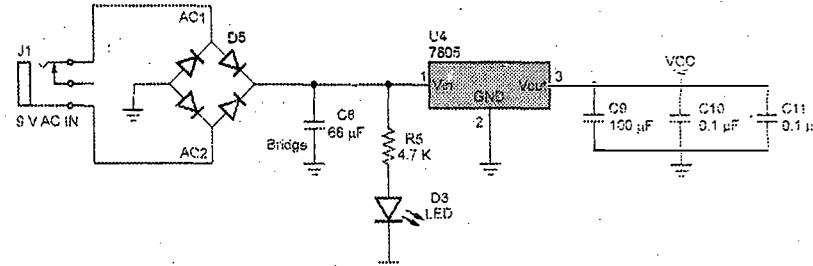

Fig. Q.14.1 Sample for power supply design
- The microcontroller selected is PIC 18F4550 which works on the frequency of oscillator ranging from 0 to 20 MHz and requires power supply of  $\pm 5$  or  $\pm 12$  V. A sample circuit design for +5 V is shown in Fig. Q.14.1.